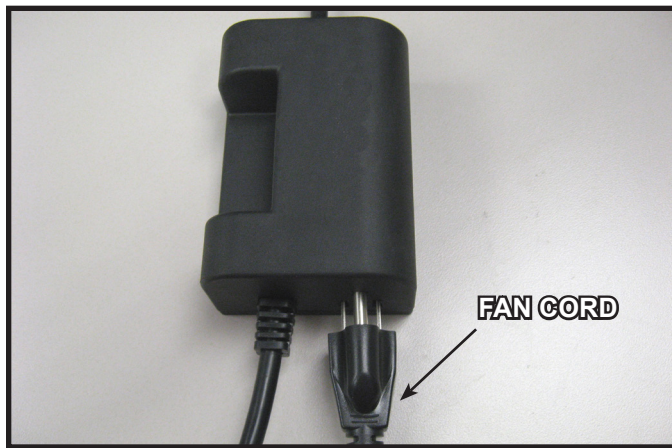

Figure 5. Plug Fan into AUX200 Module
- Insert the 3 prong plug from the fan into the receptacle located in the AUX200 module. See Figure 5.